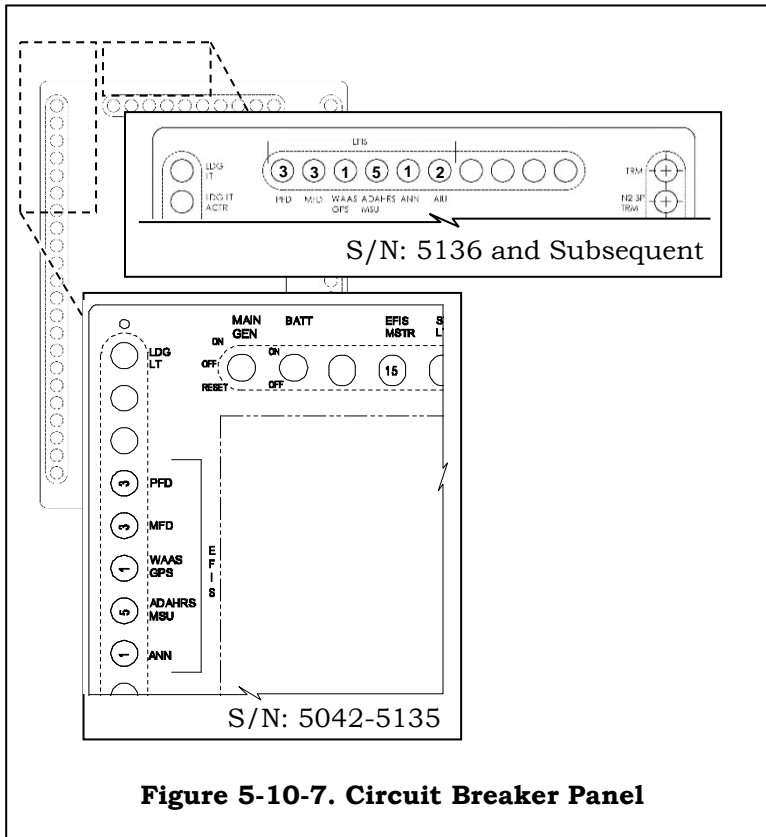
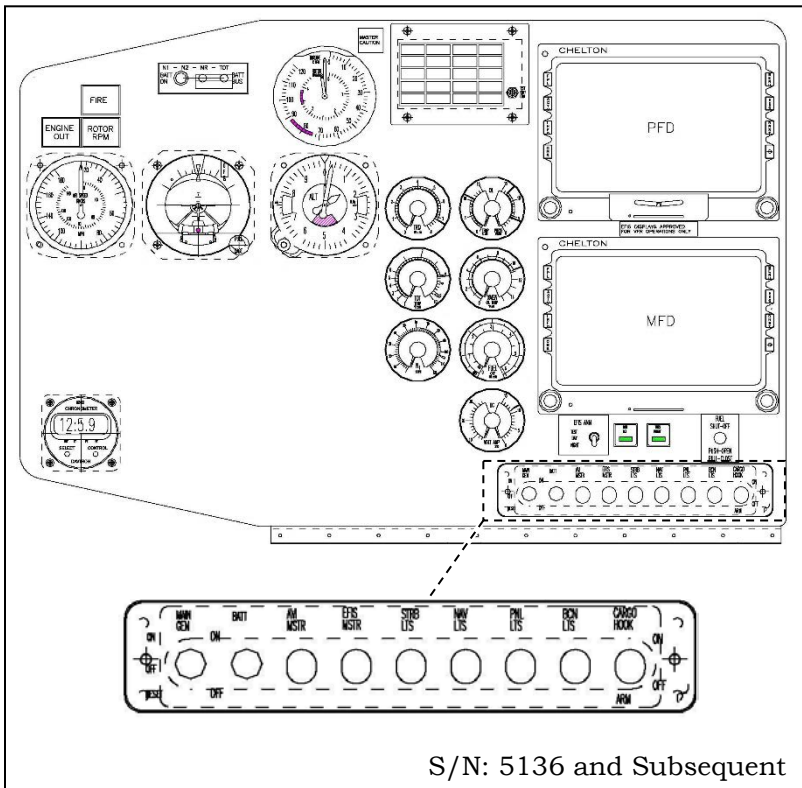

Figure 5-10-7. Circuit Breaker Panel
Figure 5-10-8. Circuit Breaker Panel, Upper Panel
1. Power for the Chelton Flight Systems EFIS consists of 28V DC. The circuit breakers are located in a vertical row on the left hand side of the circuit breaker panel or along the top of the circuit breaker panel, as shown in Figure 5-10-7. The exception is the **EFIS** master circuit breaker (15 amp), which is located in the top row of the circuit breaker panel or in the upper instrument console for aircraft with the partial wide instrument panel, as shown in Figure 5-10-8.